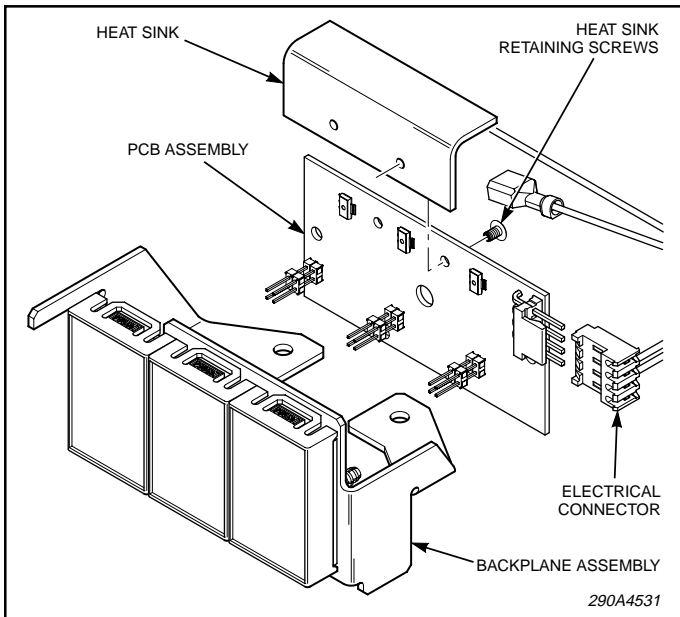

Figure 6.
b. See figure 6. Disconnect the electrical connector from the PCB assembly.
- b. See figure 6. Disconnect the electrical connector from the PCB assembly.